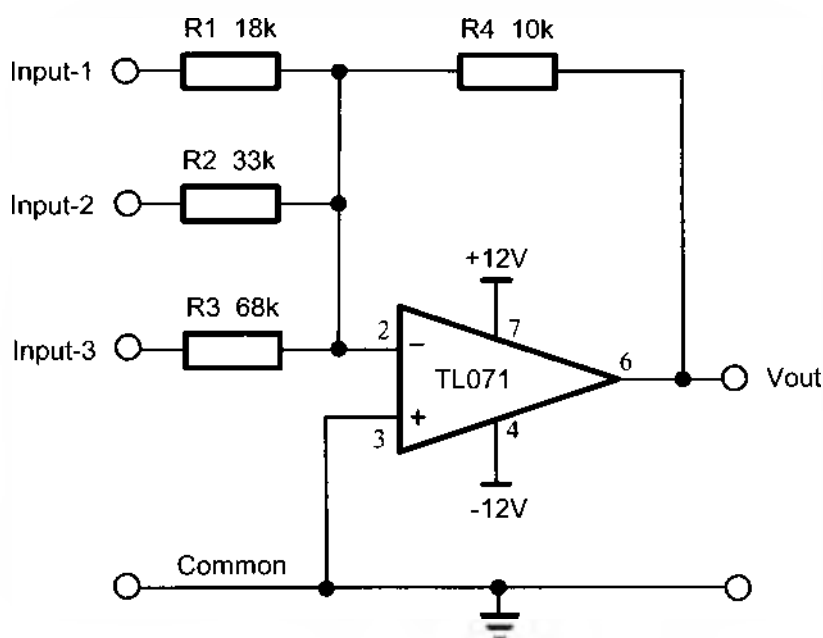

Figure 2
14. Connect the circuit of Figure 2 on the Emona Trainer but don't turn it on.